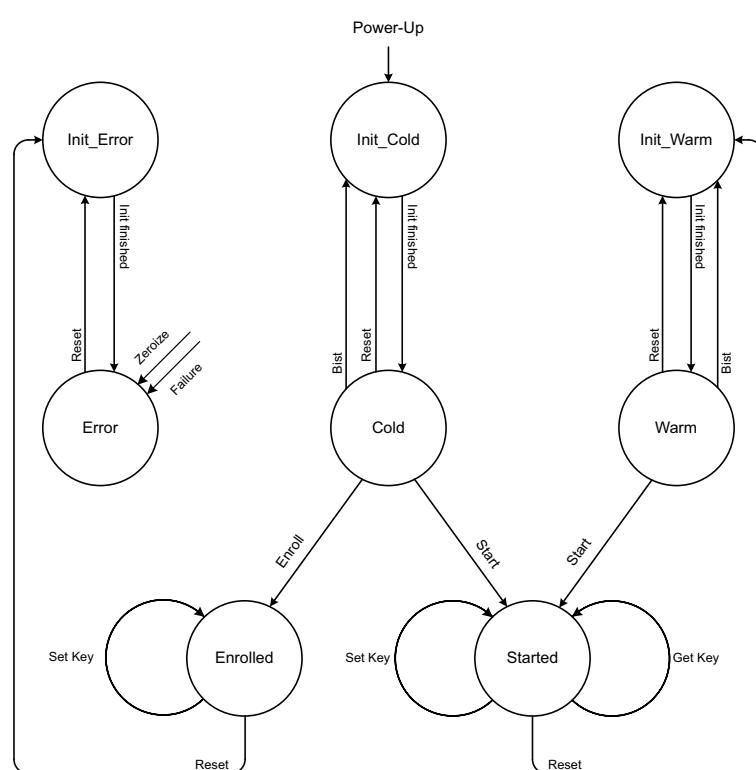

Fig 179. Possible flows, states, and actions
After power-up or reset the PUF controller starts in one of the three Init states, depending on its previous state. See Figure 179. It first initializes itself (indicated by BUSY = 1).
3. After the operation is finished, the PUF de-asserts BUSY and asserts SUCCESS, signaling that the Start operation has completed successfully. When ERROR is asserted, instead of SUCCESS, the provided activation code does not match the device. In this case, the PUF is moved to the Error state. See Figure 179 and Section 49.10.7.13 "Error response".
3. After the operation is finished BUSY is de-asserted and SUCCESS is asserted. It indicates that the Get Key operation has completed successfully. If ERROR is asserted instead of SUCCESS, the provided key code does not match the device. In this case no key is provided and the PUF controller goes to the Error state. See Figure 179 and Section 49.10.7.13 “Error response”.